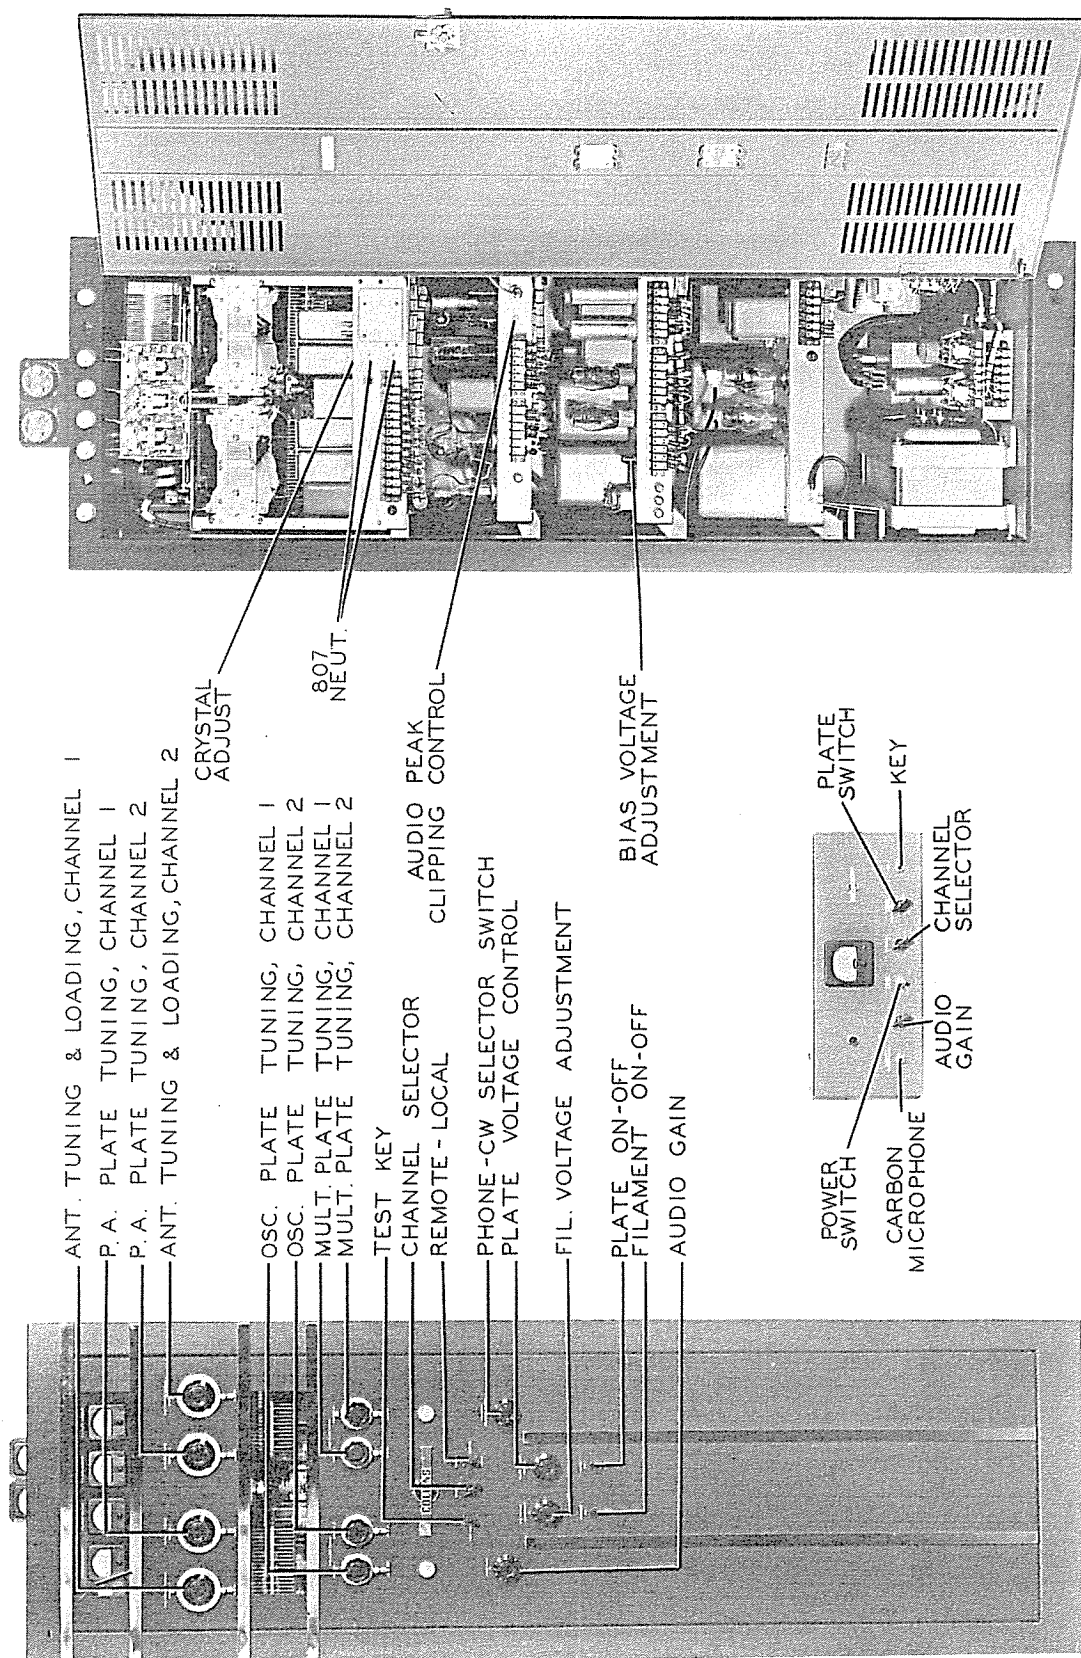

Figure 3-1. Control Functions
3.1. GENERAL. - After the installation wiring is complete and the tubes, fuses, crystals and inductors have been properly positioned in their respective sockets, the equipment is ready for initial operational adjustment. All important operating controls are located on the front panel of the transmitter and each is clearly designated as to function. The following paragraphs list the control designations and circuit elements controlled by each. Refer to figure 3-1.